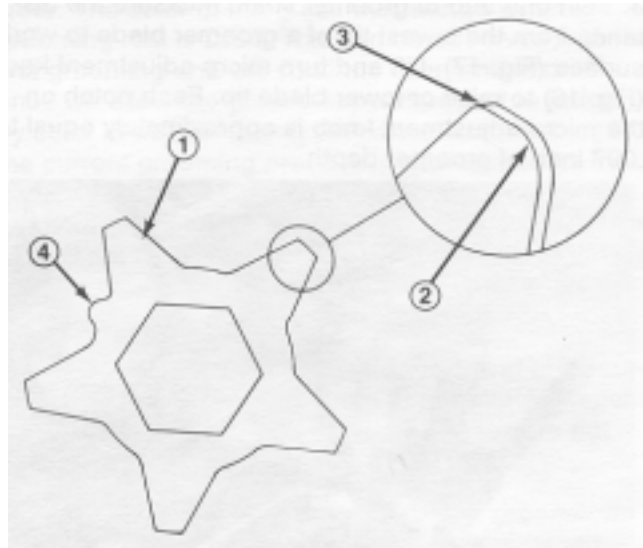

Figure 18
5. Torque the drive pulley and locknut (left hand thread) to 29 to 35 ft-lbs. Check drive belt tension. There should be 1/4 inch deflection when a force of 5–10 lb is applied midway between the drive and driven pulleys (Fig. 18).